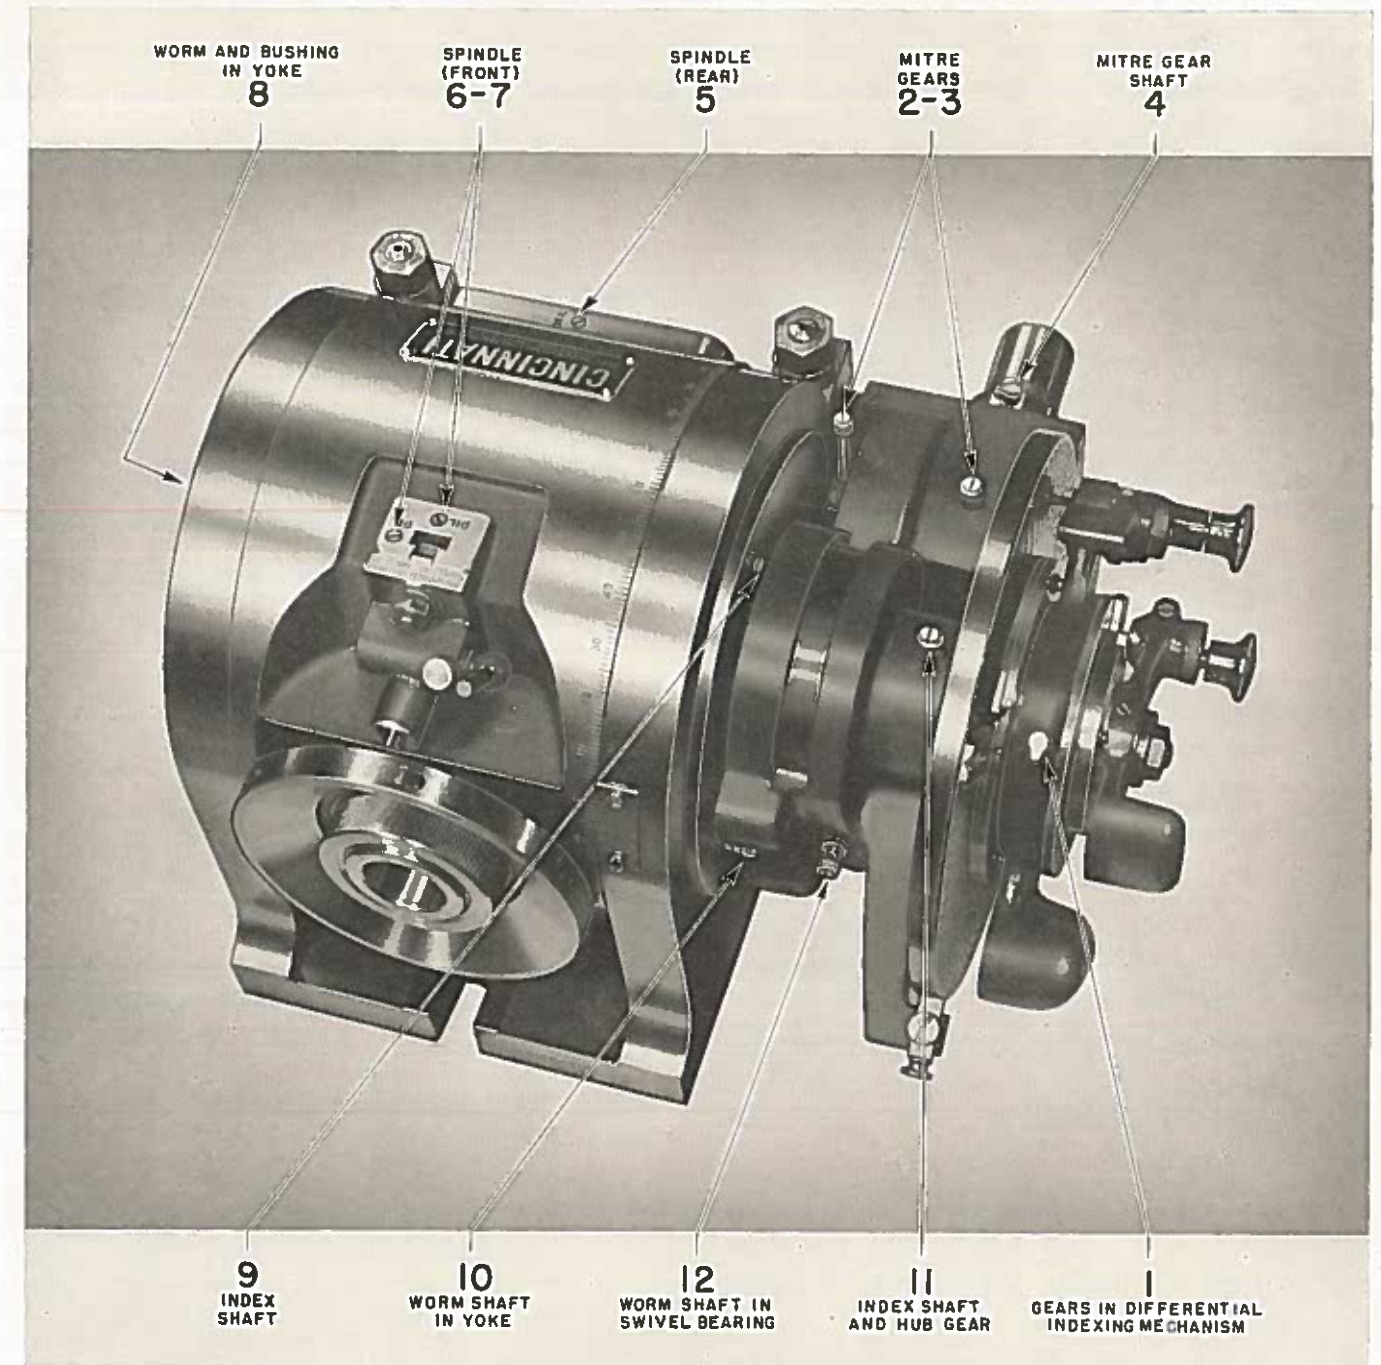

FIGURE 7A
2. Unscrew $\frac{1}{4}$ " dog point set screw located between oiling stations Nos. 10 and 12, figure 7A, page 7. Remove dust ring in cover, turn it around, and place it back in cover. Fasten cover on swivel block.